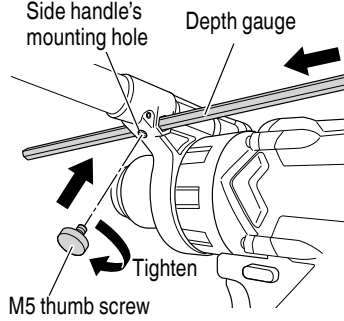

Fig. 24
18. Using depth gauge (sold separately) (Fig. 24)